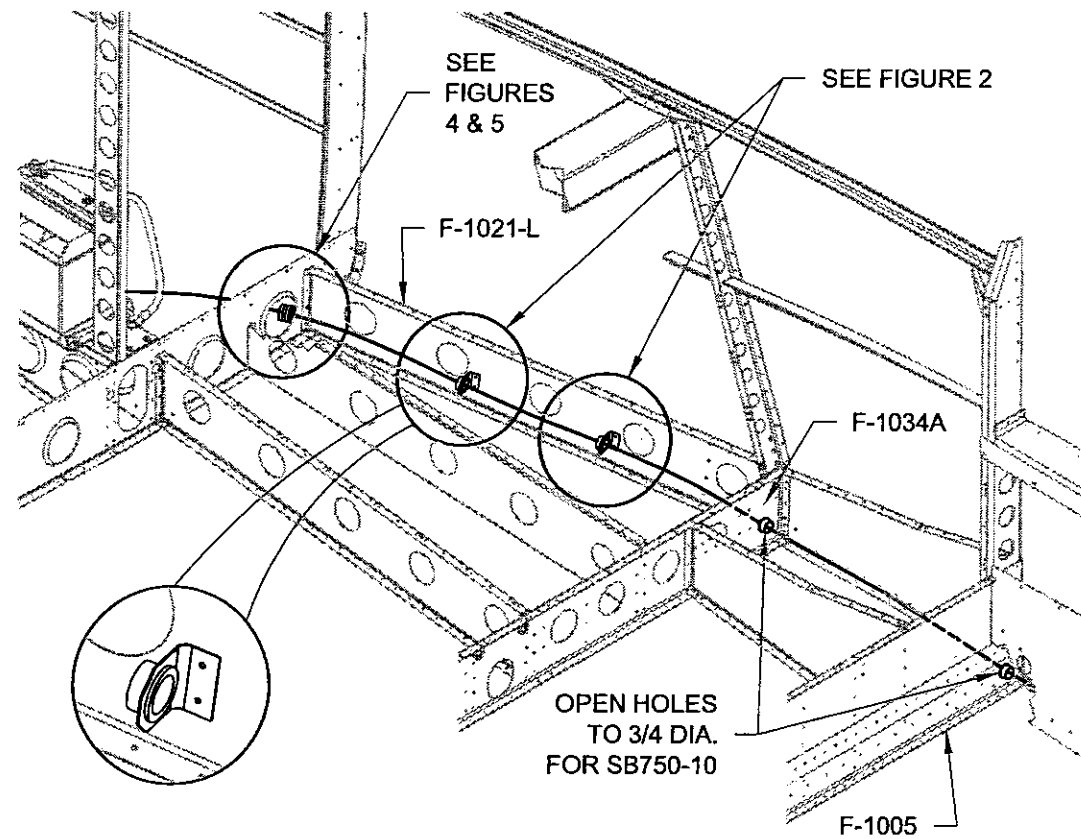

FIGURE 1: HARNESS ROUTING BENEATH BAGGAGE COMPARTMENT
Step 1: Route cable P27 through the F-1005 Rear Spar Bulkhead and the F-1034A Fuselage Bulkhead squeezing the snap bushings as before. Follow the references in Figure 1 for the remaining tasks.